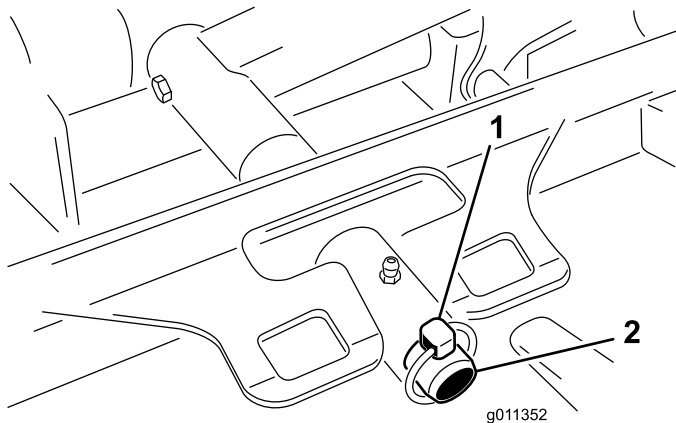

Figure 65
3. Remove the lynch pin securing the deck carrier frame to the lift arm pivot pin (Figure 65).
3. Slide deck carrier frame onto lift arm pivot pin. Secure with lynch pin (Figure 65).